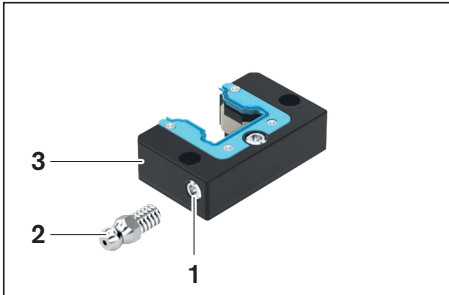
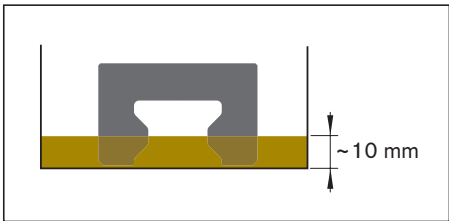

Fig. 1
Fig. 2
- ▶ Remove the set screw from the lube hole (Fig. 1, item 1) and keep it ready for later use.
- ▶ Screw in the lube nipple (2).
- ▶ Lay the front lube unit (3) down flat and fill with the amount of oil according to table 1; leave for about 36 hours.
- ▶ For size 20 low profile: Place the front lube unit in 10 mm of oil for about 36 hours (see figure 2).
- ▶ It is **not** possible to top up the size 20 front lube unit via the lube port (see figure 2).